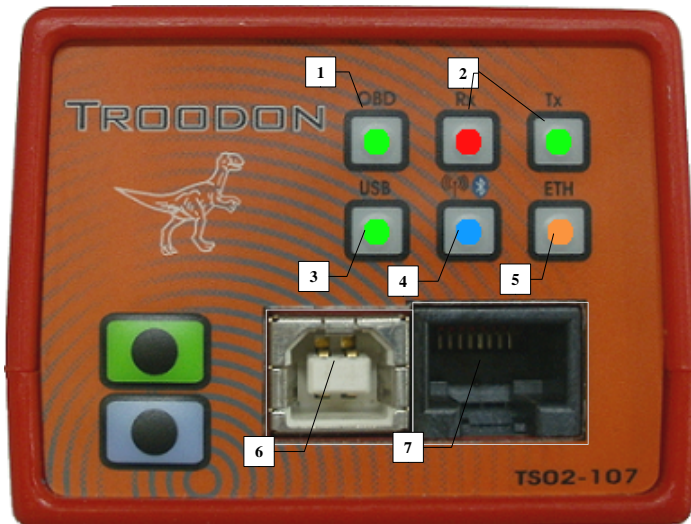

Figure 1.1
*The control and indication elements from the Figure 1.1 have the following functions:*
Connectors as seen on Figure 1.1 and 1.2\*: